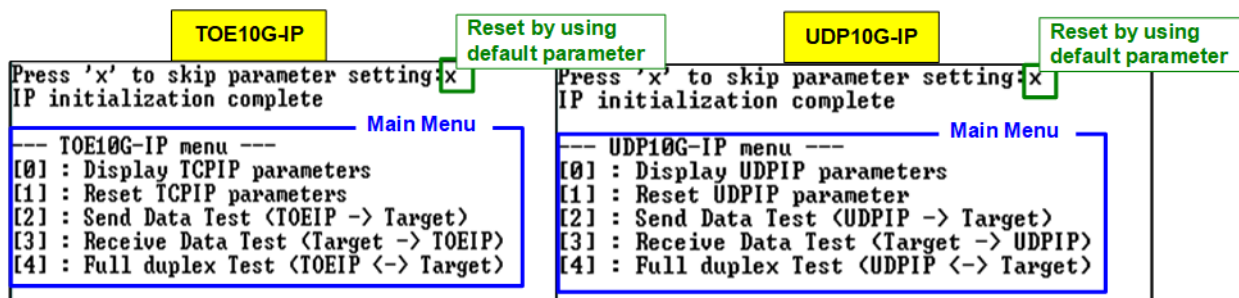

Figure 2-18 Initialization complete
- iii) If the user wishes to skip parameter setting and use default parameters to start the system initialization, input 'x' as shown in Figure 2-18. If any other keys are entered, the menu for changing parameter will appear, similar to the “Reset TCPIP/UDPIP parameters” menu. The examples of running the main menu of TOE10G-IP and UDP10G-IP are described in “dg\_toe10gip\_cpu\_instruction” and “dg\_udp10gip\_cpu\_instruction” document, respectively.